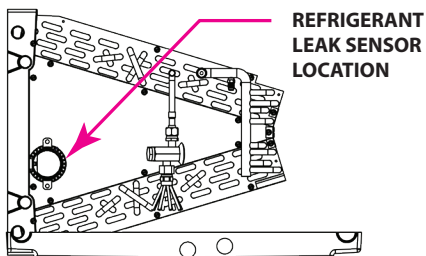

Figure 12: Refrigerant Leak Detection Sensor Location
This coil is equipped with a refrigerant leak detection system consisting of a refrigerant sensor with integral relays to perform the necessary leak mitigation if a refrigerant leak is detected by the sensor (see Figure 12). The refrigerant leak detection system wiring harness pigtailed must be properly connected to the furnace, thermostat, and outdoor unit low voltage control circuit (See Figure 13).
The flammable refrigerant sensor is installed from the factory for upflow, downflow, and horizontal left discharge applications as shown in Figure 12. For horizontal right discharge applications, the sensor must be relocated to the horizontal right discharge position location on the opposite side of the coil delta plate shown in Figure 12. Screw holes for the alternate sensor location are provided on the coil delta plate.
2. Locate the black refrigerant sensor located near the bottom front of the coil assembly (see Figure 12).